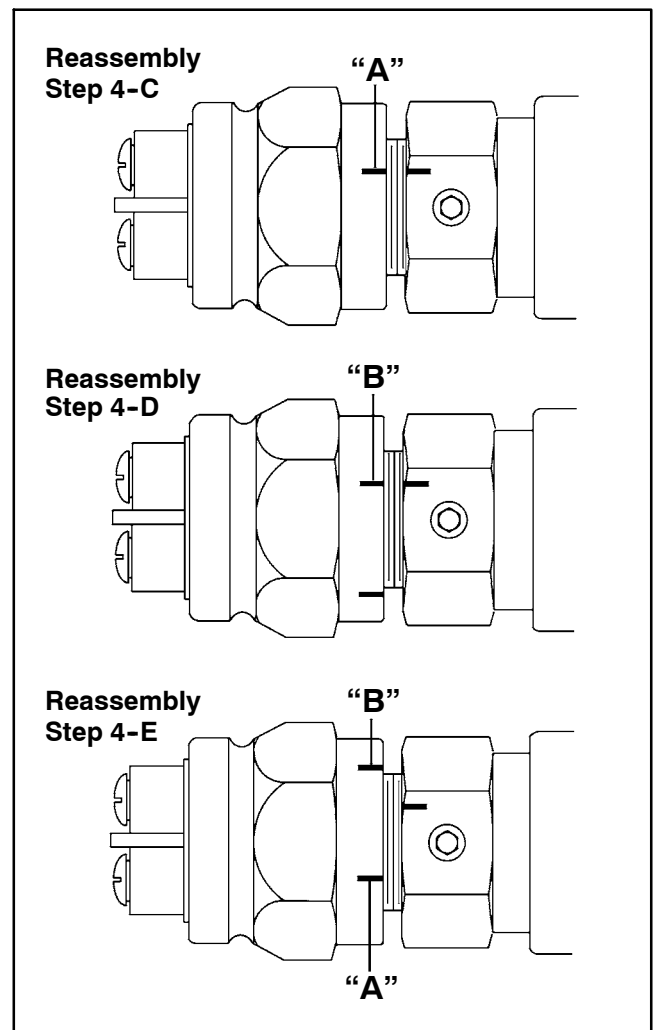

Figure 63
1. Install new o-ring (11) onto adapter and new o-ring (16) onto pin.
C. Move the link out of the detent position. The test light will go on. Screw in the switch until the light goes off. Mark this as position "A" (Fig. 63). Move the link to the detent position and the test light should come back on.
E. Unscrew the switch one third of the distance between "B" and "A". Install and tighten the set screw (17) in one of the upper quadrants of the hex of the switch adapter (Fig. 63). Torque set screw from 28 to 34 in-lb (3.2 to 3.8 N-m).